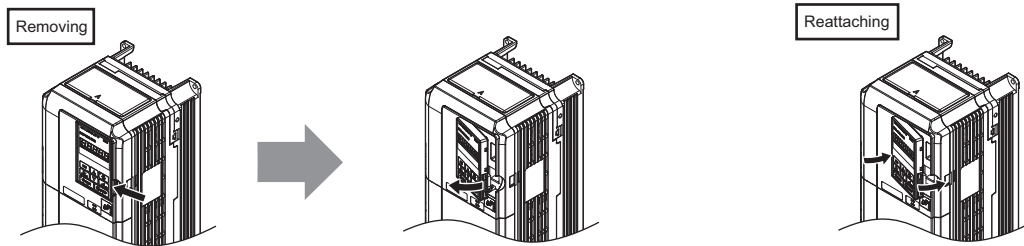

Figure 3.14 Removing/Reattaching the Digital Operator
- Unhook the left side of the front cover then swing the left side towards you as shown in Figure 3.14 until the cover comes off.